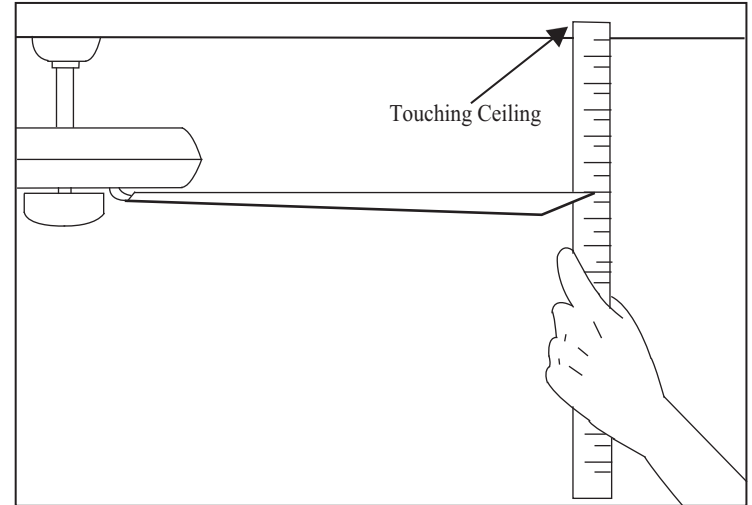

Figure 19
- Select a point on the ceiling above the tip of one of the blades, then select any fan blade and measure from the center of the selected blade to the point on the ceiling (as shown in Figure 19). Rotate the fan until the next blade is positioned and repeat the measurement using the same point from the ceiling for every blade. Measurement deviations should be within $1/8$ ".